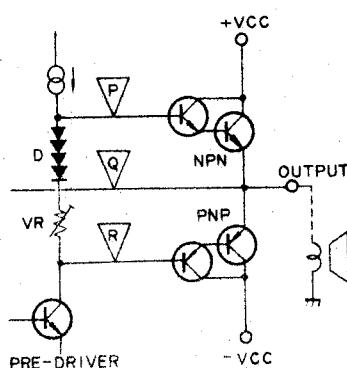
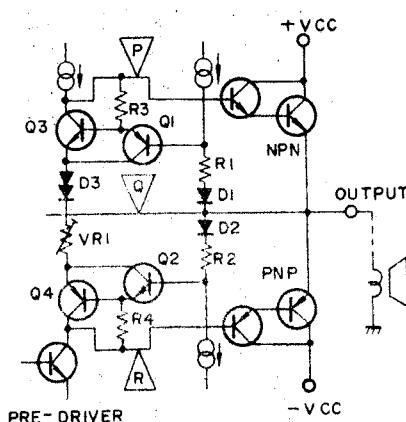

Fig. 4 Normal class B SEPP power stage
Fig. 5 Outline of NSA circuit
Since idle current flows through normal class B SEPP power stages (see Fig. 4) when no signal is applied, the DC level is shifted by  $D$  and  $VR$  by a fixed amount (with the voltage across points (P) and (R) serving as a bias). The voltage across points (P) and (Q), and (Q) and (R) at this time will be equal. When the positive portion of a signal
This NSA circuit is outlined in Fig. 5. When there is no signal applied to the circuit,  $Q_1$  and  $Q_2$  are almost cut off, while  $Q_3$  and  $Q_4$  will be on. The voltage across the collector and base of both of these transistors ( $Q_3$  and  $Q_4$ ) at this time may be disregarded. Consequently, with the power stage bias circuit consisting of 4 PN junctions formed by  $Q_3$ ,  $D_3$ , and  $Q_4$ , and  $VR_1$ , this circuit is equivalent to the previous circuit shown in Fig. 4.